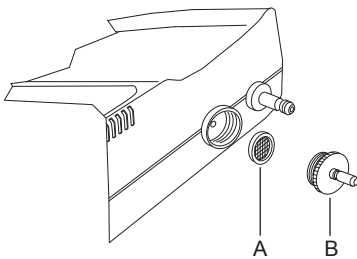

Fig. 11
- 2 Unscrew the male coupling milled ring-nut (Fig.11 - Ref.B).
- 3 Take out the filter (Fig.11 - Ref.A), wash it under running water to eliminate any impurities and/or clogs.